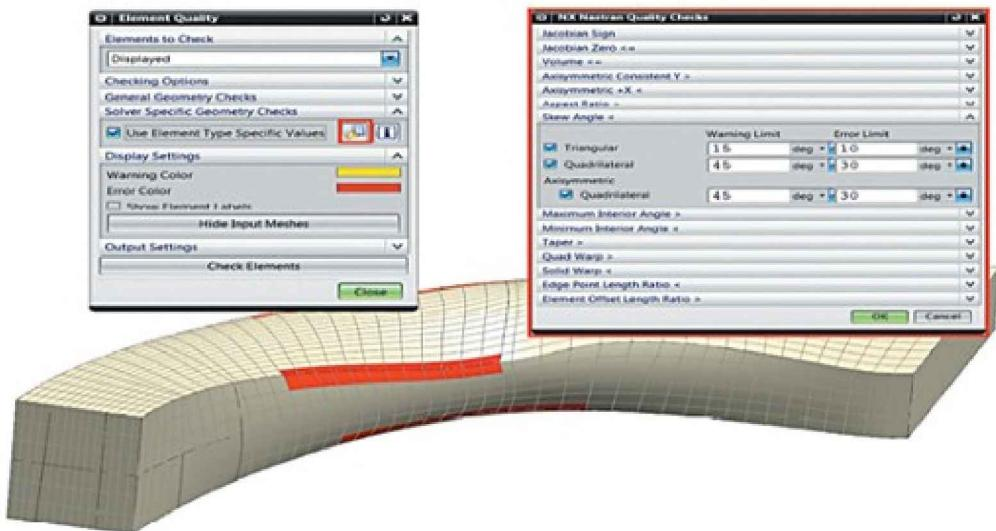

Figure 3.60. Checking element shape
- Select *Element Shapes* to verify the shape of elements and find elements of unsatisfactory quality that can directly affect the result. This is one of the key checks of the FE model (Figure 3.60). The result is element diagnostic information in textual form. In the graphics area, bad elements are highlighted with a specified colour. There are several element shape distortion criteria: compression, deformation, skew, taper angle, Jacobian ratio, Jacobian zero, and 2D minimum/maximum corner angle. Each criterion has a limit value that can be modified. When “bad” elements are discovered, you need to rebuild the mesh or use ***Node Operations*** and ***Element Operations*** tool commands to change the shape of these elements.